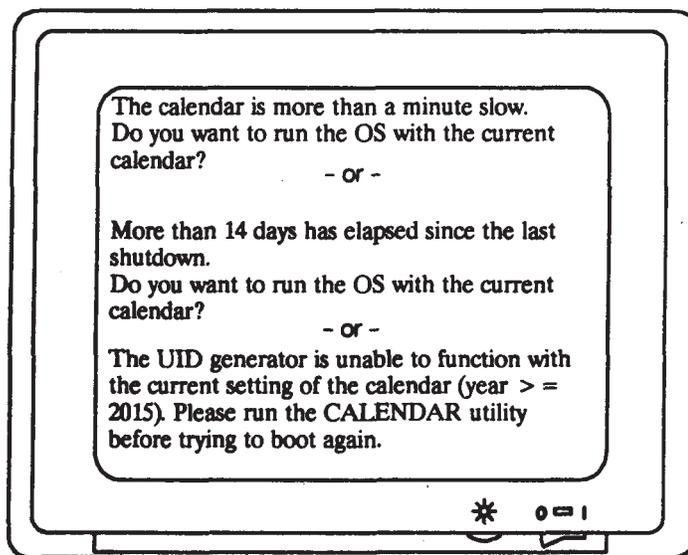

Figure 4-20. Calendar Battery Message
1. Turn on the system unit and the monitor. If the calendar backup battery is not working (incorrectly seated, or dead), you will see an incorrect date printed in one of the messages shown in Figure 4-20.